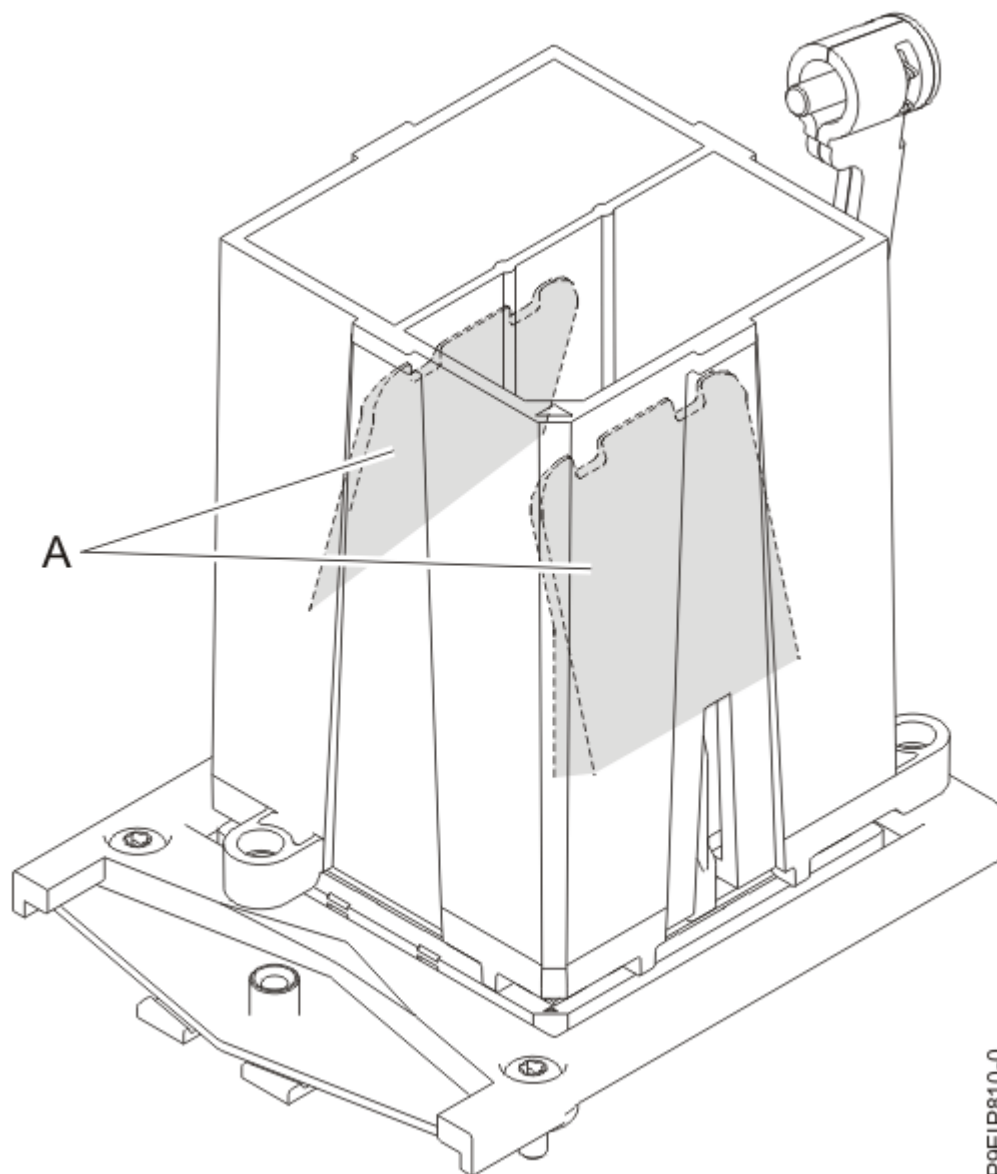

Figure 45. Removing the system processor module tool
12. After the tool and system processor module holes and guide pins are properly aligned, squeeze and hold the two blue release tabs **(A)** together until a firm stop is reached as shown in Figure 45 on page 48. Then, lift the tool off the system processor module.